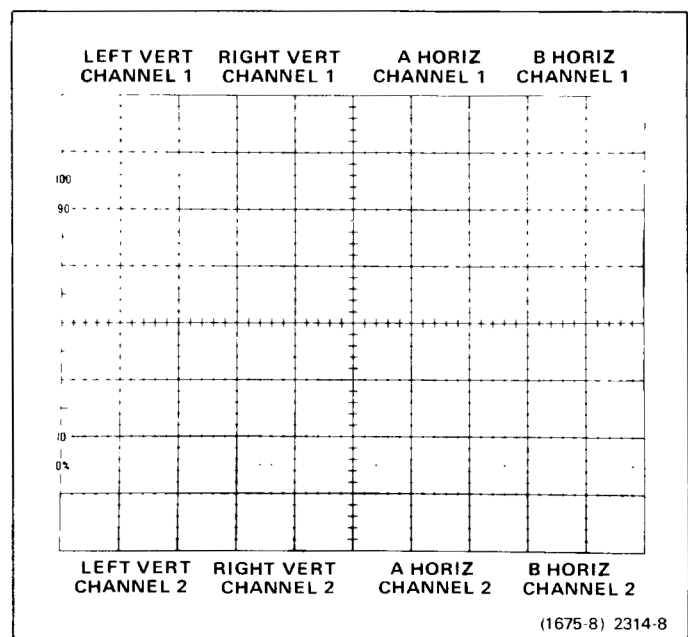

Figure 3-8. Location of readout display on the crt identifying the originating plug-in and channel.
Frame—A display of all words for a given operating mode and plug-in combination. Up to 8 words can be displayed in one frame. Figure 3-8 shows the position of each word in a complete frame.
Up to 8 words of readout information can be displayed on the crt. The position of each word is fixed and is directly related to the plug-in unit from which it originated. Figure 3-8 shows the area of the graticule where the readout from each plug-in unit is displayed. Notice that Channel 1 of each plug-in unit is displayed within the top division of the crt, and Channel 2 is displayed directly below within the bottom division. Figure 3-10 shows a typical display where only Channel 2 of the Right Vertical and B Horizontal units is selected for display.
The Format Generator stage provides the output signals to the vertical and horizontal deflection systems of the instrument to produce the character display. The binary Channel Address Code from the Channel Counter stage is connected to this stage, so that the display from each channel is positioned to the area of the crt associated with the plug-in and channel originating the word (see Fig. 3-8). The positioning current or decimal point location current generated by the Decimal Point Logic and Character Position Counter stage is added to the Horizontal (X) signal at the input to the Format Generator stage to provide horizontal positioning of the characters within each word. The X- and Y-Readout signals are connected to the Horizontal Amplifier and Vertical Amplifier through the X- and Y-Buffer stages.